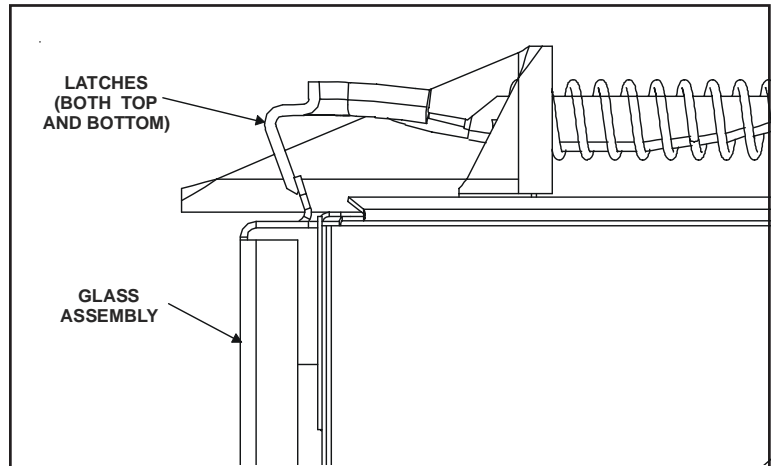

Figure 33. Glass Assembly
- Remove the glass door from the unit (Figure 33).